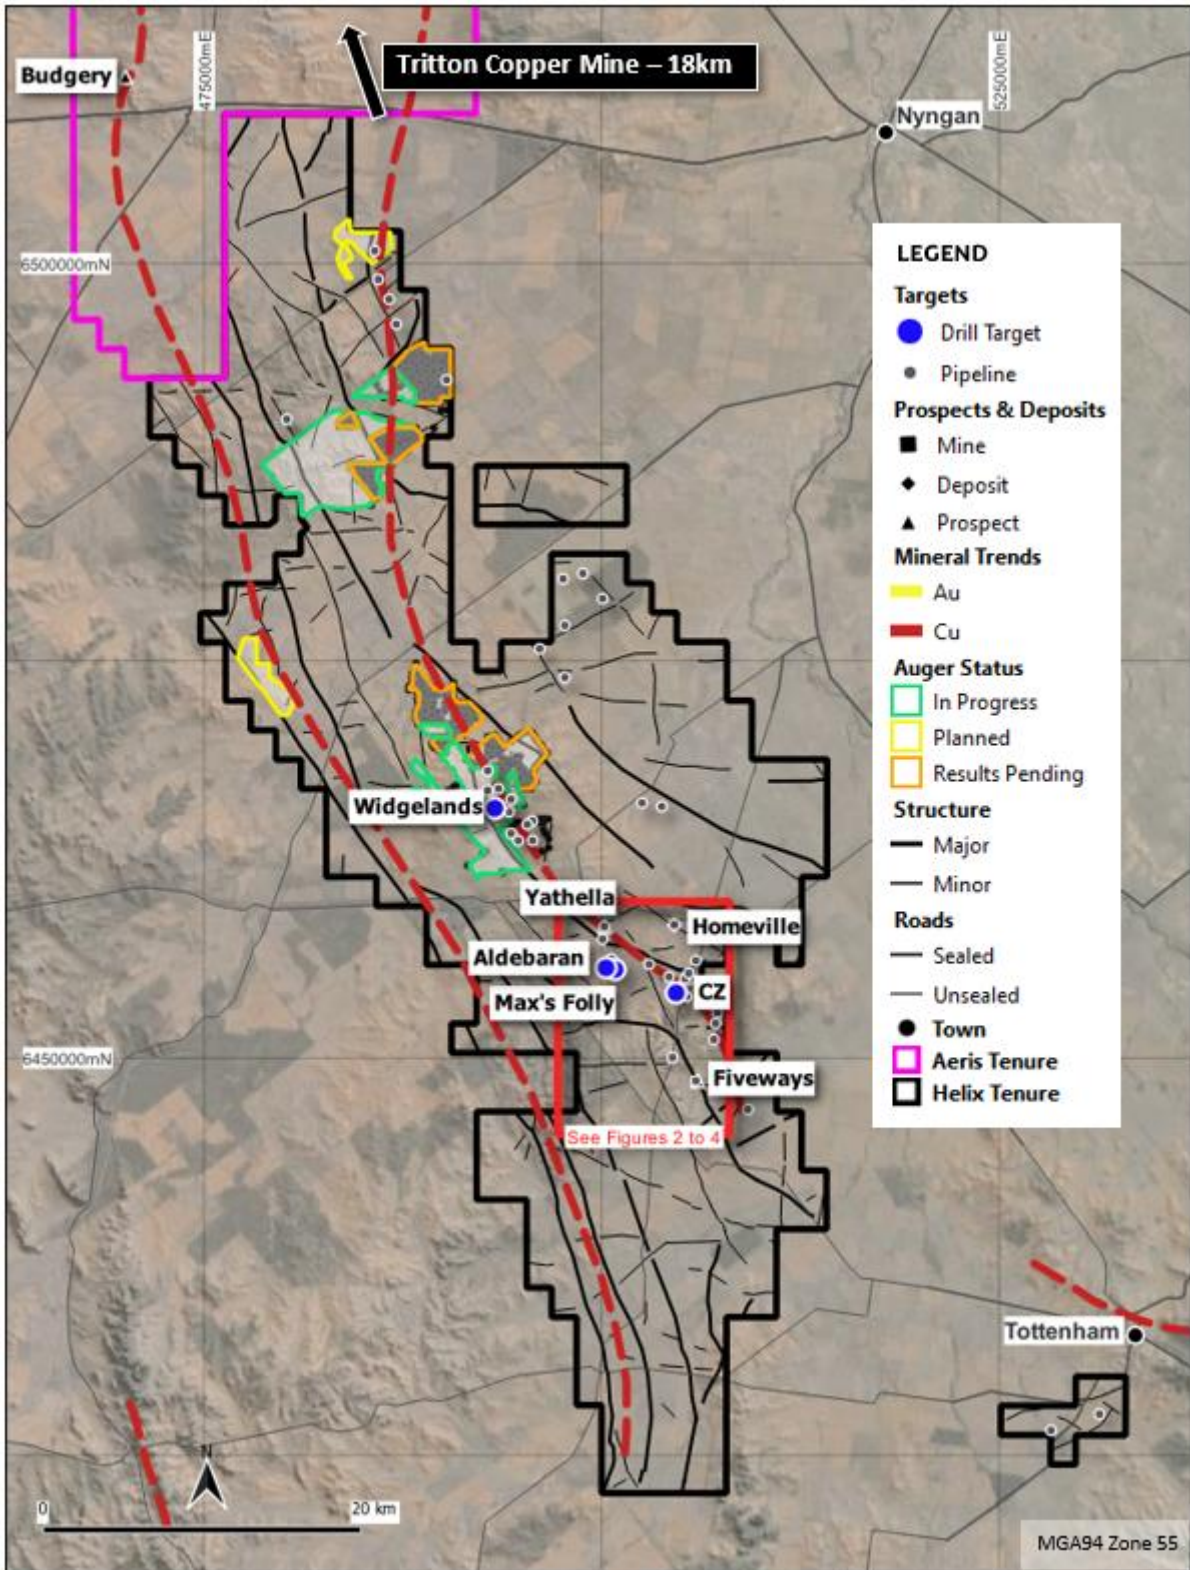

Figure 1 – Eastern Group tenements, targets, structure and auger sampling status.
Helix Resources Ltd (**ASX:HLX**, Helix or the Company) is pleased to announce the positive impact of additional results in the Company’s newly identified large-scale gold anomaly in the Eastern Group tenements located approximately 50km southeast of Nyngan in central, NSW (refer **Figure 1** – Eastern Group tenements). Notably, the additional results further enhance the robustness and extend the continuity of the three multi-kilometre gold targets.
The Eastern Group covers approximately 1,570km² of copper - prospective stratigraphy in the Girilambone Group, west and southwest of Nyngan. The northern boundary is 18km south, along the Collerina Copper Trend, from Aeris Resources’ Tritton Copper operation (**Figure 1**).
Further assay results have been received for auger samples in the Eastern Group in the area west of the CZ copper project (**Figure 1**). These latest results were combined and levelled with the previous auger results to generate element maps for the primary economic metals such as gold (Au) and copper (Cu), in addition to a range of pathfinder elements such as arsenic (As) and antimony (Sb). Further details on the processing of the geochemical data are provided in **Attachment 1** (JORC Table 1).
- Two auger rigs are currently operating in the Eastern Group Tenements and sampling is currently in progress in the Widgelands area and the northern Collierina Trend (**Figure 1**).
- Reverse Circulation (RC) drilling is planned to commence at defined targets in the Rochford Copper Trend in mid-May.